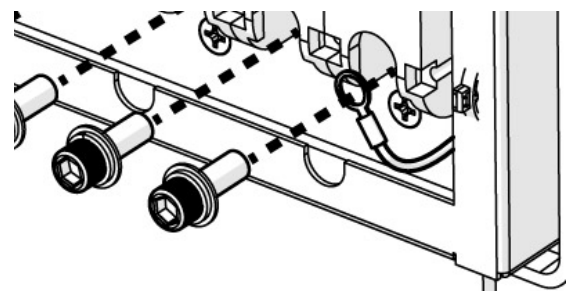

Figure 7. Reinstall socket head hardware
Step 6. Reinstall the 3/8 in. socket head cap hardware into bottom of the circuit breaker from Step 2 (recommended torque value: 225 in-lbs). Ensure the ring terminal (blue wire) on the furthest breaker pole to the right is secured between the 3/8 in. socket head cap screw hardware and the DCX termination plate as shown in Figure 7.